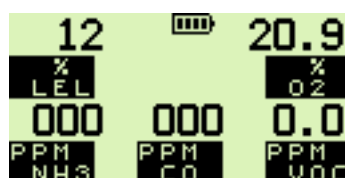

Fig. 3.10 Check Fault
3) If a “ZERO FAULT” flag and a flashing spanner symbol appear, alternating with an LEL gas value as shown in Fig. 3.10, leave instrument on for 30 to 60 minutes then switch instrument Off and On again. If fault remains, return instrument to an approved Service / Repair facility.